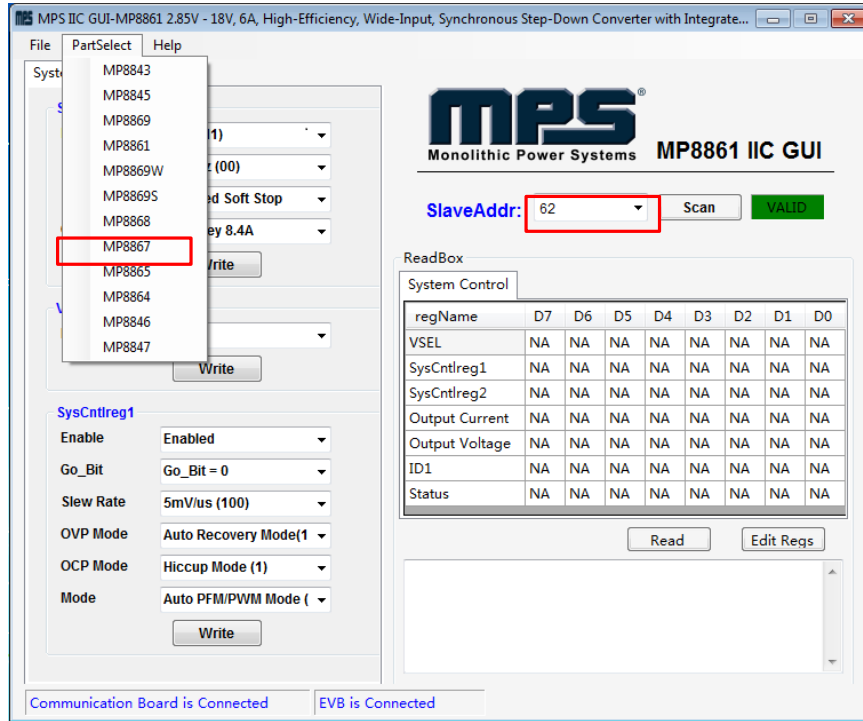
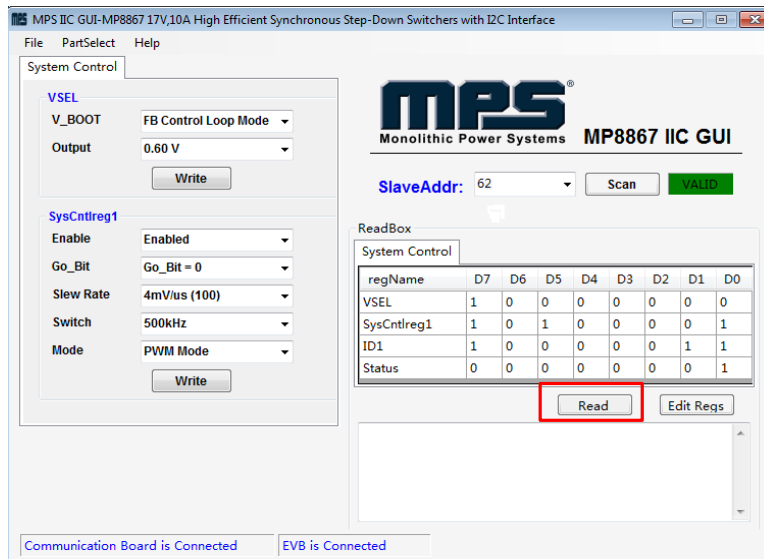

Figure 7: Appearance of Address Indicates Successful Connection
Figure 9: Values from I²C Shown in Table
- If the connection is successful, the address will be listed in the “Slave Address” (see Figure 7).
3. Click the “Part Select” button to select the MP8867 (see Figure 7). The default GUI window is for the MP8861. The Register Control menu will appear on the left side. I²C register values will be read and displayed on the right side after clicking the “Read” button (see Figure 9).